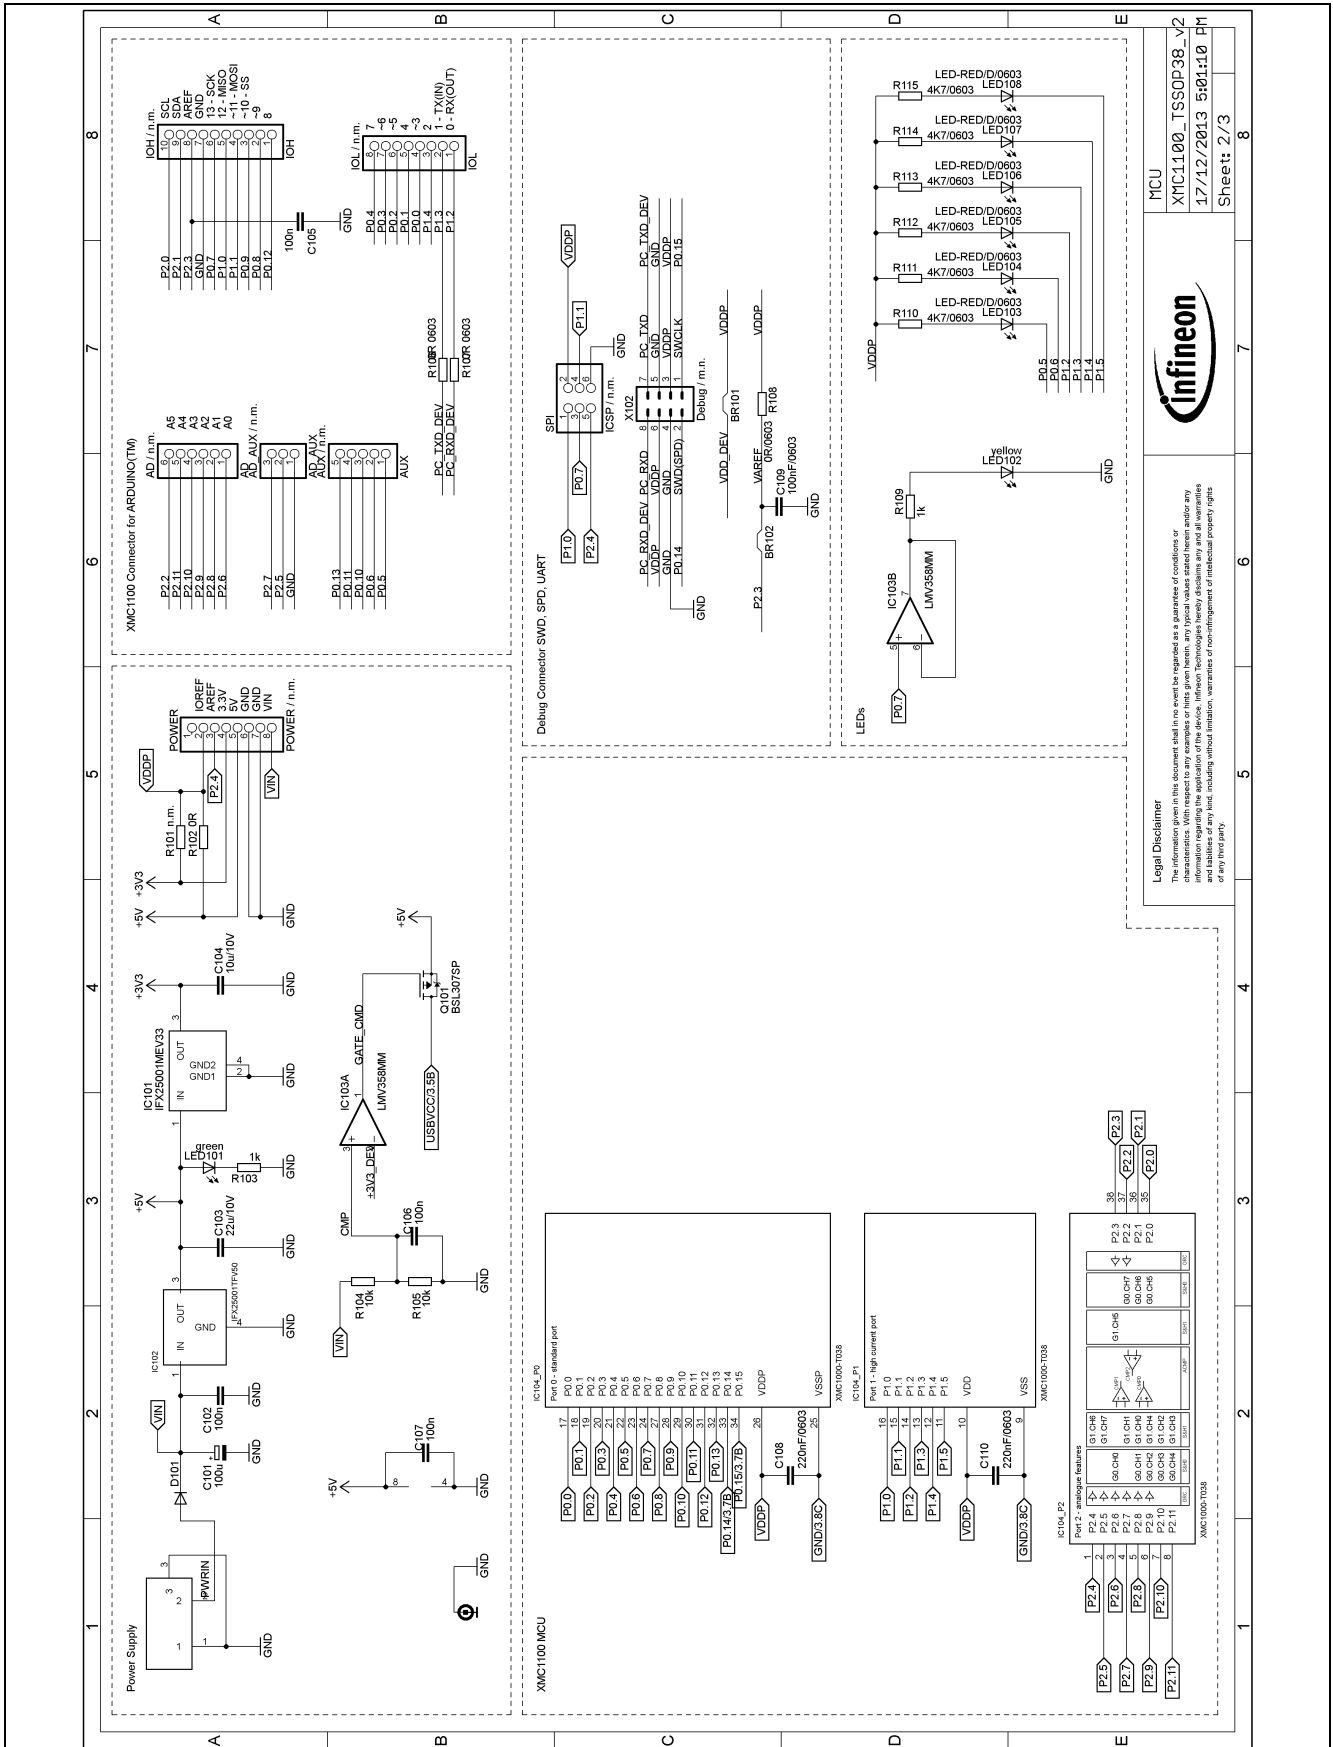

Figure 9 Schematic 1 of 2 XMC1100 CPU Card for Arduino™
- Figure 9: CPU, Pin Headers, LED, Power Supply